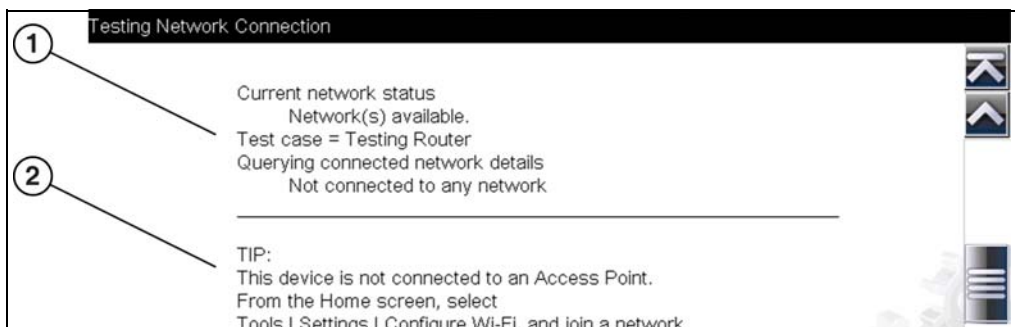

Figure 13-5 View Summary
4. If a connection issue(s) is present, select **View Summary** to review the results. The summary information is helpful if you are experiencing difficulties with your connection (Figure 13-5). Scroll through the summary information to review the test results for each system and Tip messages for the current connection issue. See *Connection Tests - Troubleshooting* chart in Wi-Fi Troubleshooting and Status Messages on page 134 for additional information.